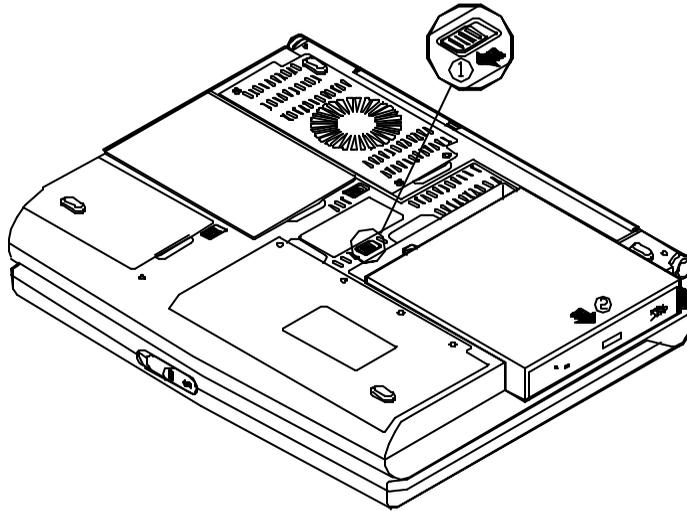

Figure 2-15
4. Press the latch in the illustrated direction and slide the CD-ROM module out of the Notebook (Figure 2-15).